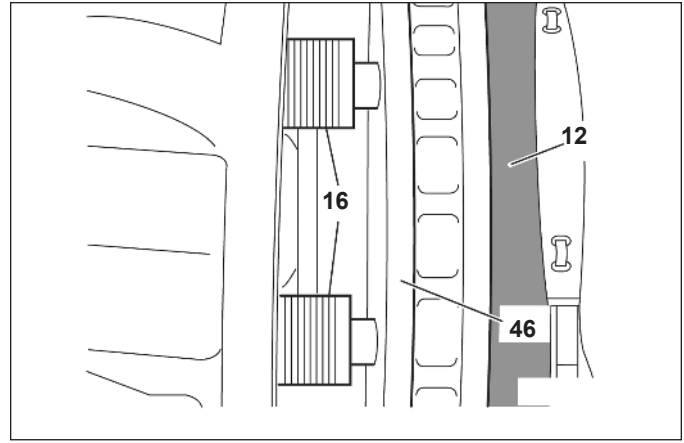

Figure 51 – Use of a New Brake Pad as a Spacer
5.5.10 Inspect the threaded tubes (16). See Figures 51 and 52. Extend the tubes, but by less than 1.75 in. (44.5 mm), by turning the shear adapter (61) clockwise. Inspect the threads for rust, corrosion, or damage etc. If there is evidence of damage to the threads, significant rust, or corrosion, the caliper/carrier assembly must be replaced.
If the technician is working with the caliper on the vehicle, the technician may place a new brake pad (12) into the outboard gap to help avoid the loss of thread engagement of the threaded tubes. (See Figure 51.)